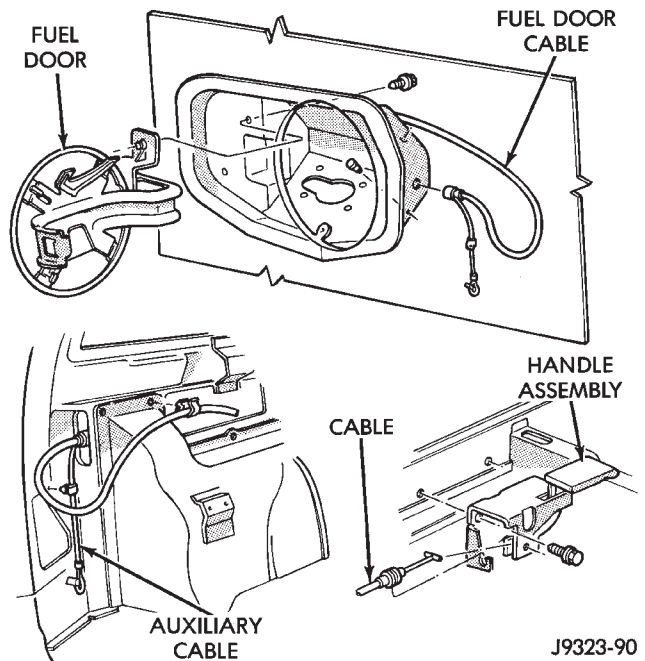

Fig. 42 Fuel Door Components
(7) Remove cable from fuel door latch and grommet (Fig. 42).
(8) Remove cable from vehicle.